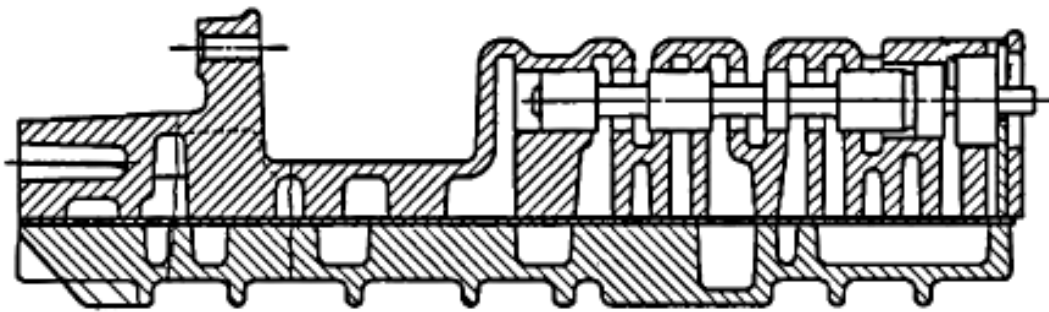
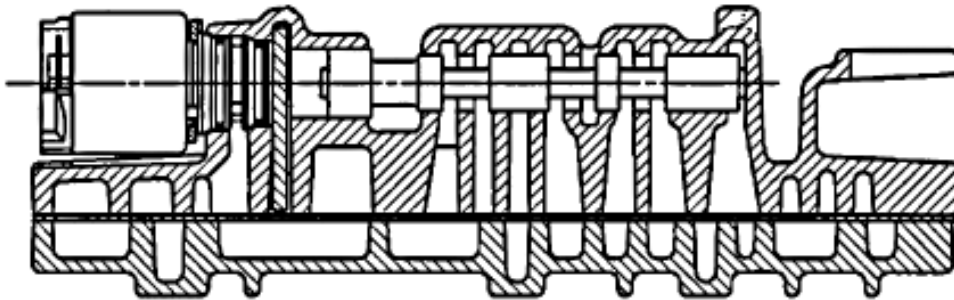

Figure 8.48 1 – 2gear shift valve
Figure 8.49 3 – 4 gear shift valve
- e. Install the 1-2 Gear gear shift valve, plug and fixed bolt. Refer to Figure 8.48. Install the 3-4 Gear gear shift valve and fixed bolt. Refer to Figure 8.49.